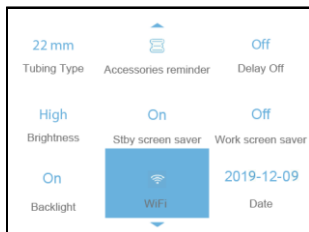
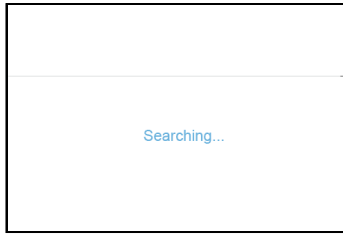

Fig. 15-5
Fig. 15-6
(2) Turn **the Knob**  until the cursor stays on the **"WiFi"** option, as shown in Fig. 15-5. Press **the Knob** , and the interface shown in Fig. 15-6 appears. Wait for 0-5 seconds to automatically access the **"WiFi"** setup interface.